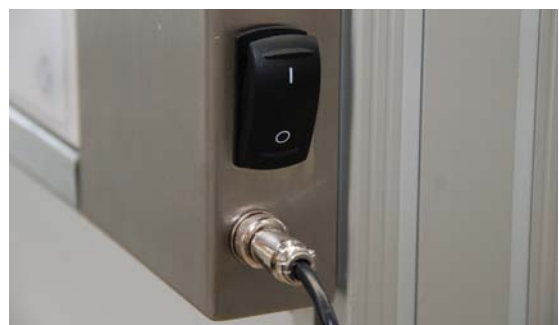

fig. 3.1-38
**Step 29** Putting into operation: Plug the 24V barrel connector of the provided adapter **C3** into the 24V jack of the twall®. The jack and the switch can be found at the right stainless steel frame cover. Now connect the adapter to the power supply line and plug it into a 200V/ 10A socket and switch on the twall® (*fig. 3.1-38*). All lights will flash up for a short moment and the twall® is ready to operate.